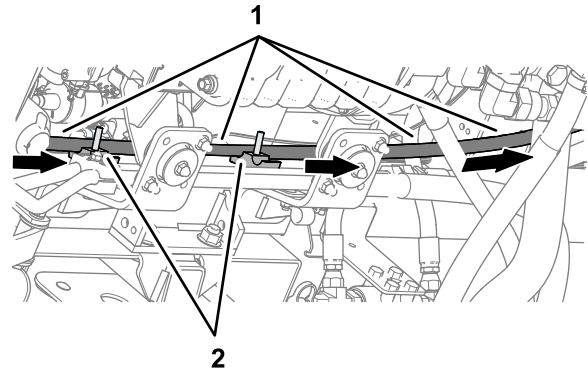

Figure 125
1. Route the hydraulic pump hose 10 x 2921 mm (3/8 x 115 inches—EHI steering valve port PT) with the 45° fitting into the top groove of the tube-clamp half at the upper location (Figure 125).